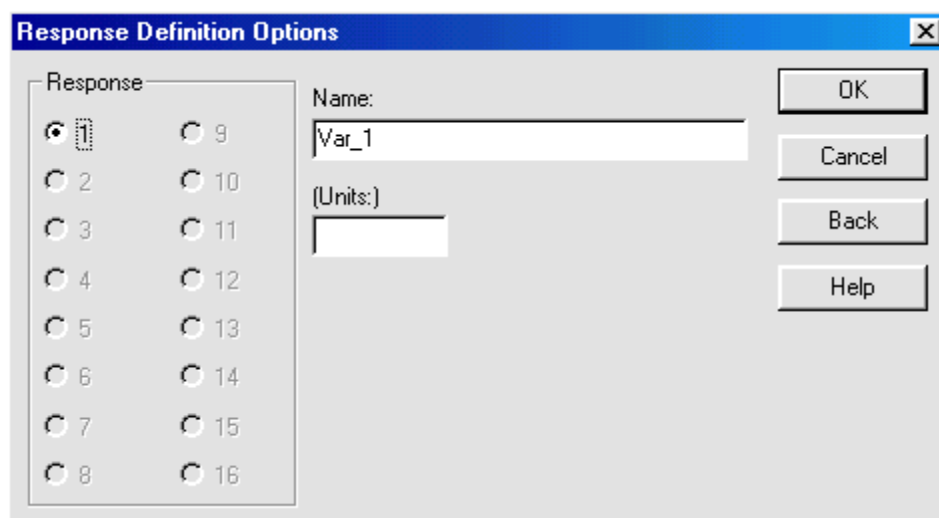

Figure 4-3. Response Definition Options Dialog Box
5. Click OK to display the Response Definition Options dialog box shown in Figure 4-3.